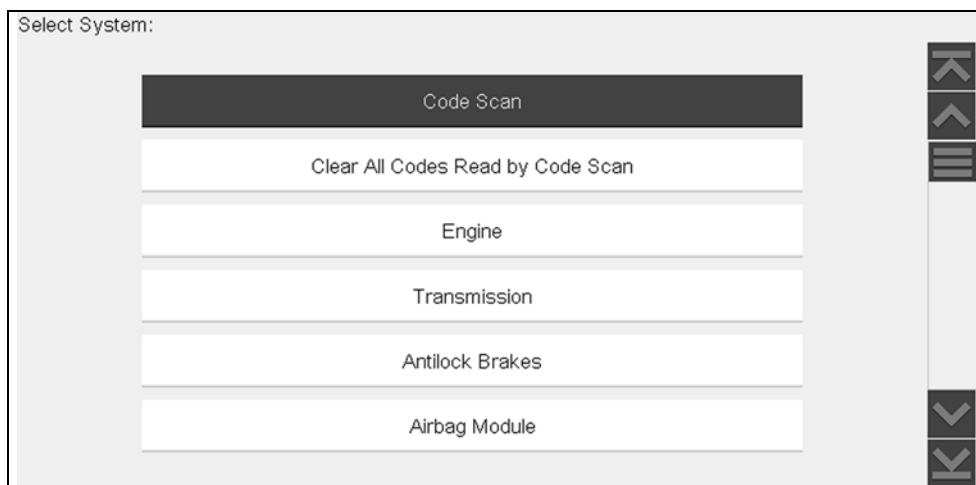

Figure 6-4 Typical systems menu
7. After the vehicle is identified, a menu of available systems, and options are displayed. Select a system or option (Figure 6-4).